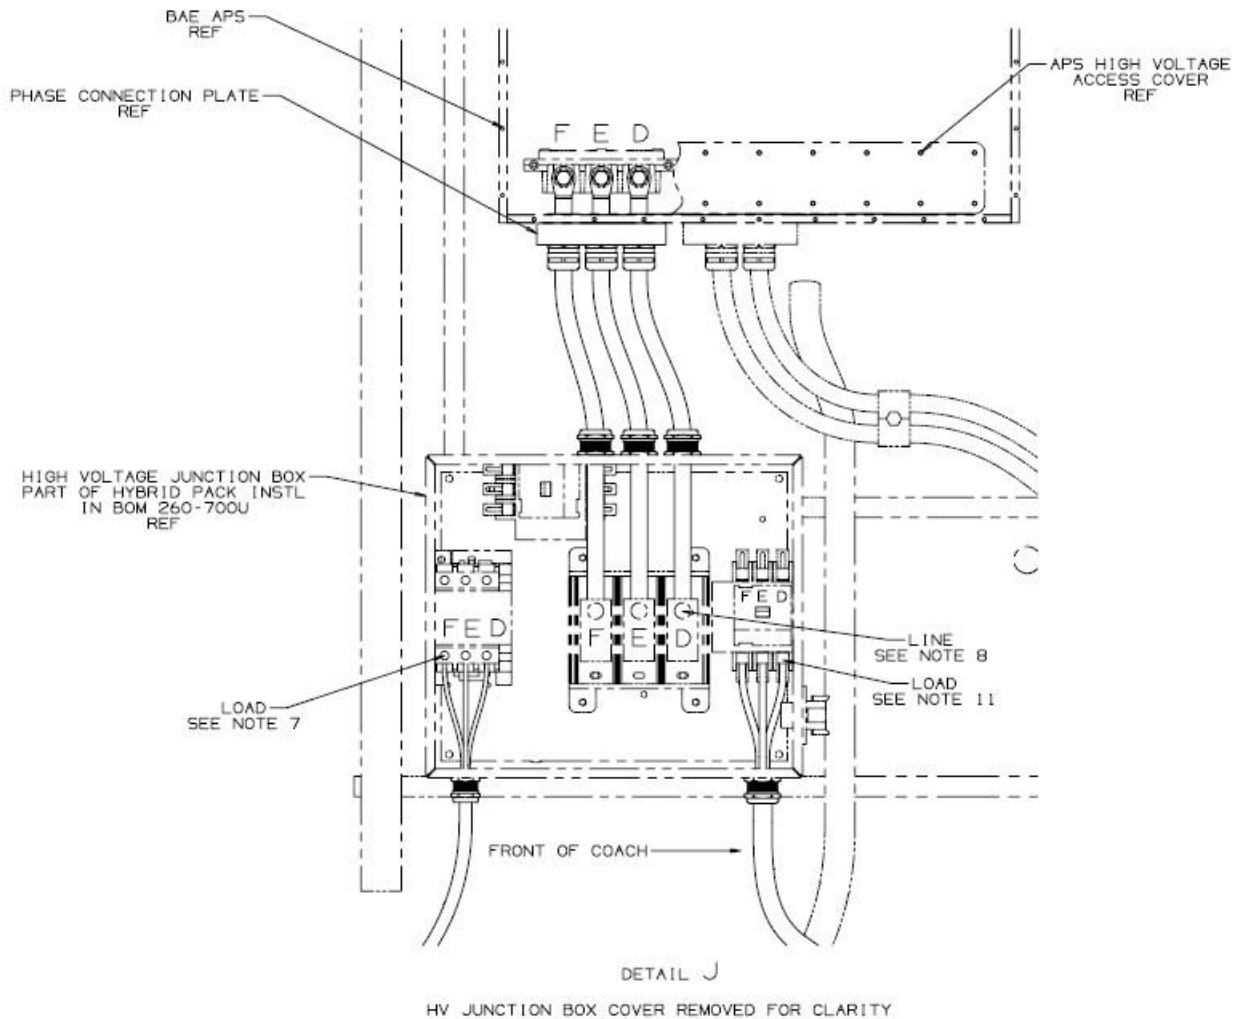

Figure 3: High Voltage Junction Box
4. Open the lid of the High Voltage junction box shown in Figure 3 to have access to the BAE accessory cables.